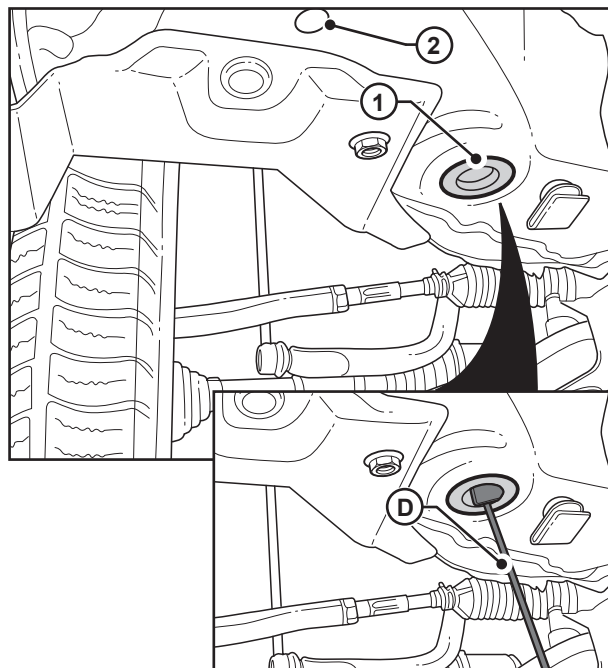

FIGURE 4a
- Insert the M12 tapped plate **(Item D)** into the 25mm diameter hole on the LH torque box and feed it towards the enlarged 13mm hole **(2)** in Step 3 as shown in Figure 4a.